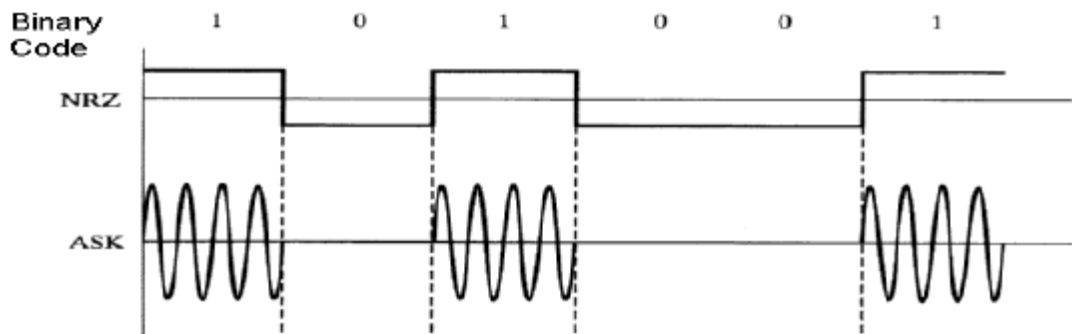

Fig 2. ASK waveforms
8. Observe ASK modulated signal at OUT1 post. Compare it with DATA. It is similar to fig 2 shown above.